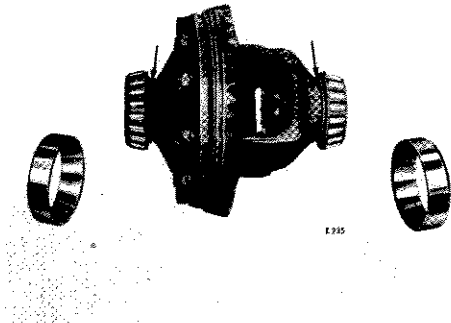

Fig. 68. Differential unit and bearings
Remove the cage from the casing and extract the bearings (74), see Fig. 69. Remove the shims (73) and note the thickness and location of each shim pack. The shims are shown on Fig. 68.